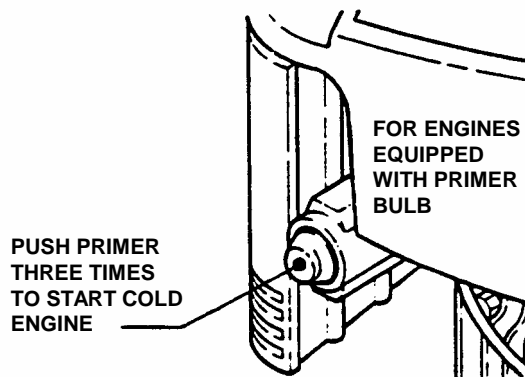

FIGURE 2.3
2. Push primer button three times to start a cold engine. **NOTE: Primer should not be required to restart a hot engine.** See Figure 2.3.